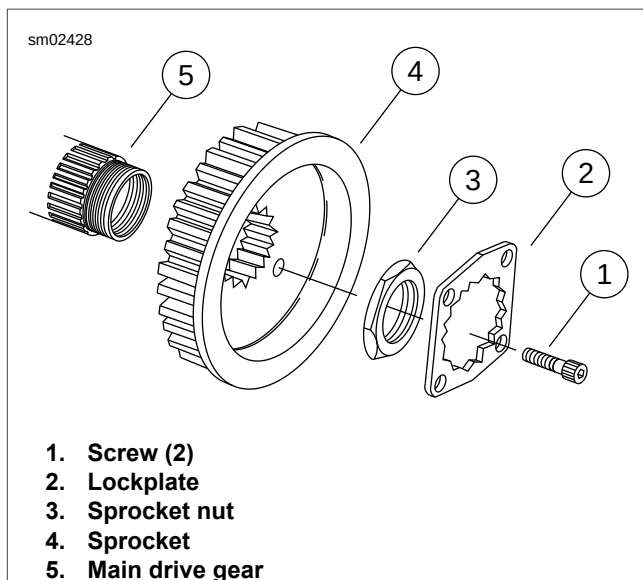

Figure 5-37. Transmission Sprocket
- a. See Figure 5-37. Remove both screws (1) and lockplate (2).
- See Figure 5-37. Apply a thin film of clean engine oil to the mating surfaces of the sprocket nut (3) and the sprocket (4). Install the sprocket nut until finger-tight.
- See Figure 5-37. Install two screws (1) to secure lockplate (2) to sprocket (4). Tighten to 90-120 in-lbs (10.2-13.6 Nm).